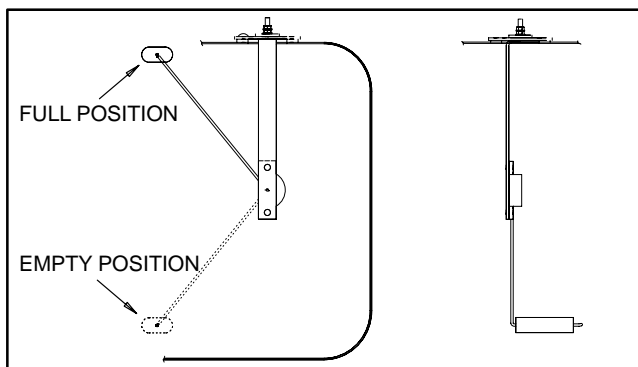

Figure 31
5. Check resistance of the sender with a multimeter (Fig. 31).